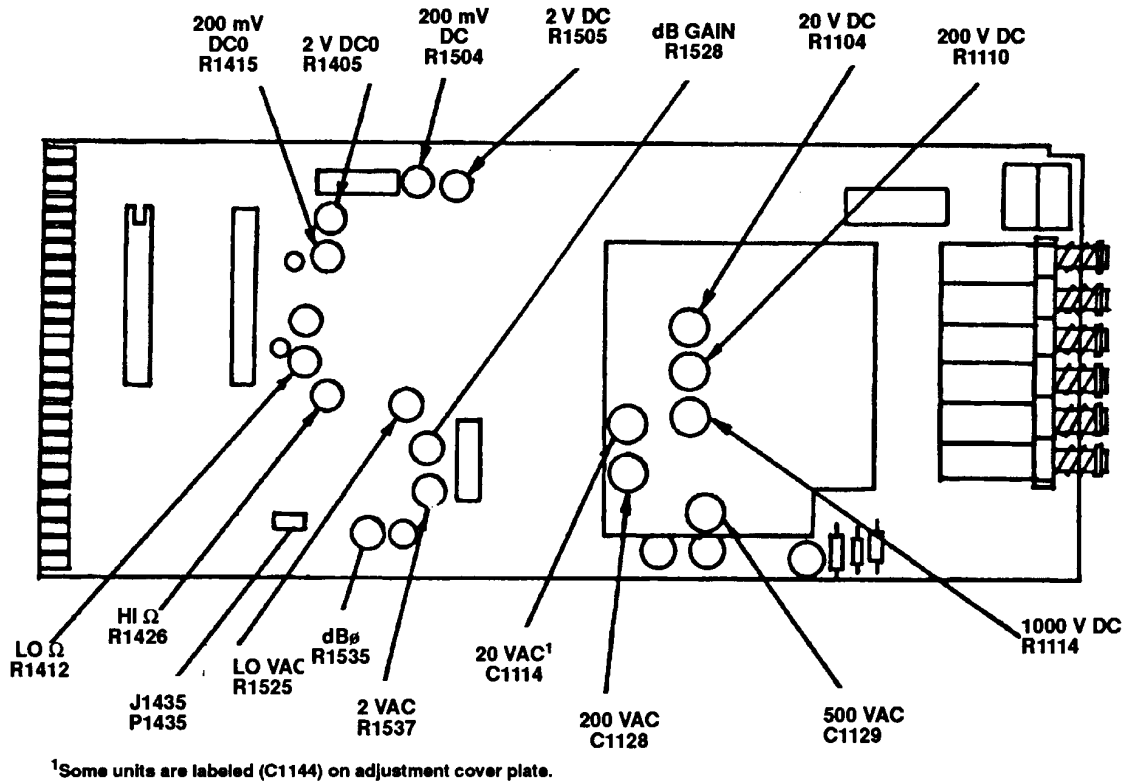

Figure 2. Tektronix, Type DM 501 A - left side view.
- (1) Adjust 2 V DC 0 R1405 (fig. 2) until TI indicates all zeros (R).
- (2) Adjust 200 mV DC 0 R1415 (fig. 2) until TI indicates all zeros (R).
- (1) If necessary place dBm/dBV jumper J1435 P1435 (fig. 2) in dBm position.
- (2) Connect calibrator **OUTPUT** to TI **VOLTS/Ω** and **LOW** terminals. Press TI **AC TRUE RMS** and **dB** pushbuttons.
- (3) Press **dB** range pushbutton and set calibrator output as listed in table 9. TI will indicate within the specified limits; if not, perform adjustments indicated.
- (1) Release **HI-LO** pushbutton (HI) and set calibrator for a nominal 19 k $\Omega$  output.
- (2) Adjust HI $\Omega$  R1426 (fig. 2) for a TI indication equal to calibrator's displayed value for 19 k $\Omega$  (R).
(3) Press **HI-LO** pushbutton (LO); then adjust LO $\Omega$  R1412 (fig. 2) for a TI indication equal to calibrator's displayed value for 19 k $\Omega$  (R).